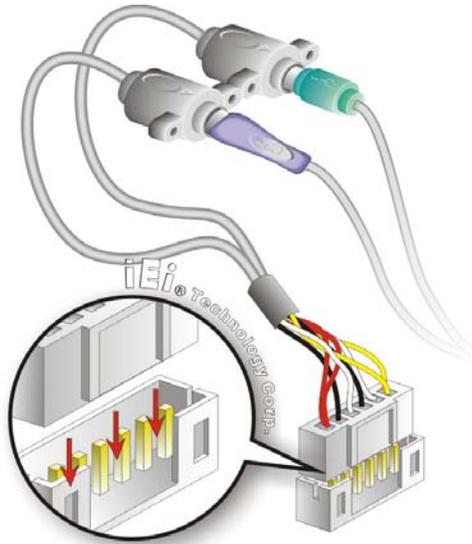

Figure 4-9: Keyboard/mouse Y-cable Connection
- Step 2:** **Align the connectors.** Correctly align pin 1 on the cable connector with pin 1 on the PM-PV-D4251/N4551/D5251 keyboard/mouse connector. See **Figure 4-9**.
- Step 3:** **Insert the cable connectors** Once the cable connector is properly aligned with the keyboard/mouse connector on the PM-PV-D4251/N4551/D5251, connect the cable connector to the onboard connectors. See **Figure 4-9**.